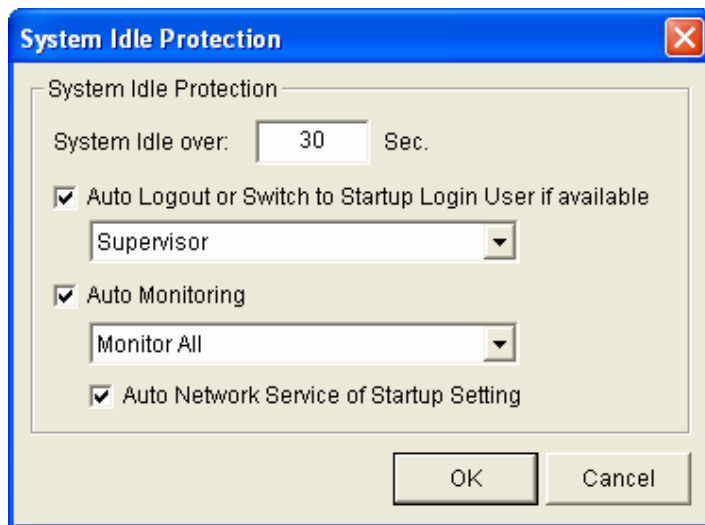

Figure 1-39
4. In the System Idle Protection dialog box (Figure 1-39), select **Auto Logout or Switch to Startup Login User if available**, and then select **Supervisor** or **Supervisor, Power User** from the drop-down list.
1. In the System Idle Protection dialog box (Figure 1-39), select the **Auto Monitoring** option, and select **Monitoring All**, **Schedule Monitoring**, **I/O Monitoring** or **Camera Monitoring** from the drop-down list. When **Monitoring All** is selected, both **I/O Monitoring** and **Camera Monitoring** will be enabled.